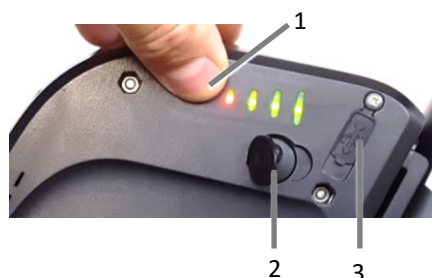

Figure B2. Checking the battery charge:
- Connect the **power cord (5)** firmly to the **power socket on the charger (6)**.
- Gently remove the small rubber cap to expose the **battery input socket (Figure B2, 2)** on the battery.
- Connect the **charger output cable (7)** to the **battery input socket (Figure B2, 2)** on the battery.
- Connect the **power chord (5)** to the **wall power point (AC, 110/220 Volt, 50/60Hz) (4)**.
Alternative Procedure if there is a visible SPARK between the **battery input socket (Figure B2, 2)** and the **charger output cable (7):**